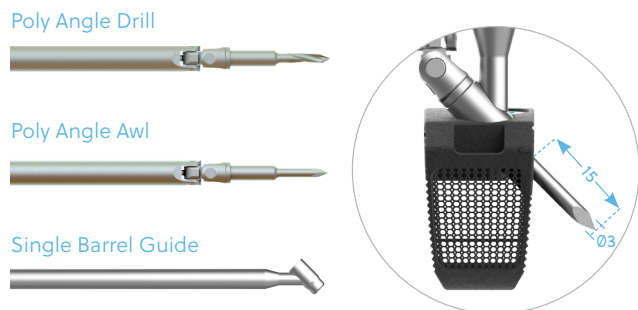

Figure 17
- Poly angle instrumentation includes the poly angle awl, the poly angle drill, and the single barrel guide (Figure 17).